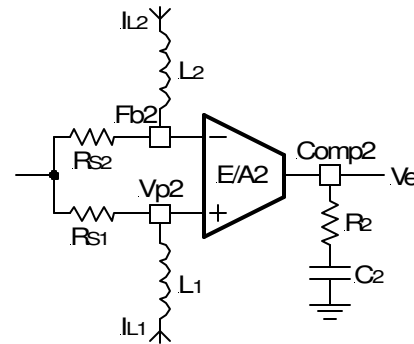

Figure 8 - The PI compensation network for slave channel.
The transfer function for the compensation network is given by equation (18), when using a series RC circuit as shown in Figure 8: